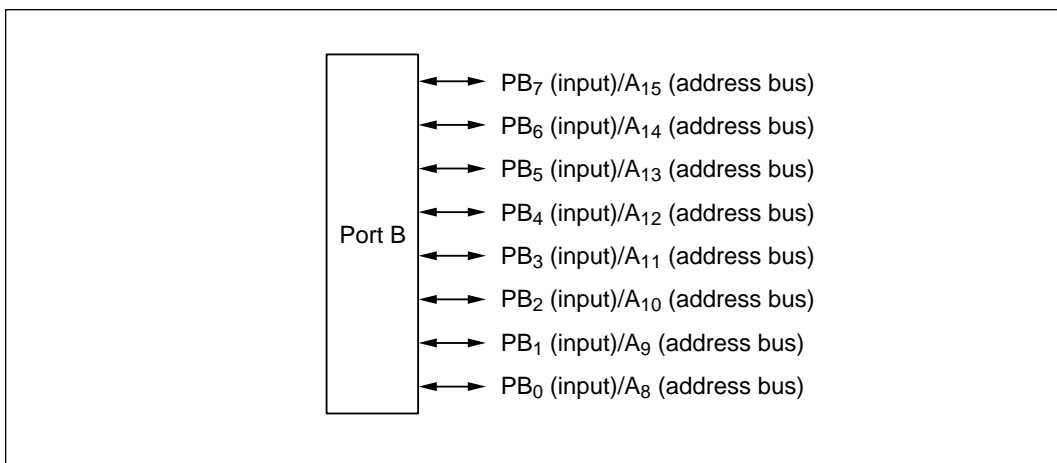

Figure 10-76 Pin Functions in Modes 2 and 4
(2) Pin Functions in Modes 2 and 4: Port B can be used for address output (A₁₅ to A₈) or general-purpose input. A pin is used for address output if the corresponding PBDDR bit is set to 1, and for general-purpose input if this bit is cleared to 0. Figure 10-76 shows the pin functions in modes 2 and 4.